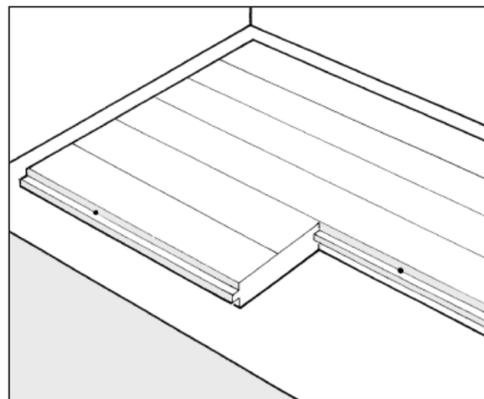

Figure 3.
- 22mm, 20.5mm or 14mm Floors “secret nailed” directly onto an existing load bearing timber floor (ply, floor boards etc. (Fig. 3))
3 TIMBER SUB-FLOORS FOR 22mm, 20.5mm AND 14mm FLOORS (See Fig. 3)
On Timber Sub-floors - 22mm, 20.5mm and 14mm Floors. (Fig. 3). First place a layer of Junckers Interlay cardboard felt paper 500g/m² underlay, onto the base. Nail as above at intervals of 450mm. For 14mm boards use 40mm lost head wire nails.